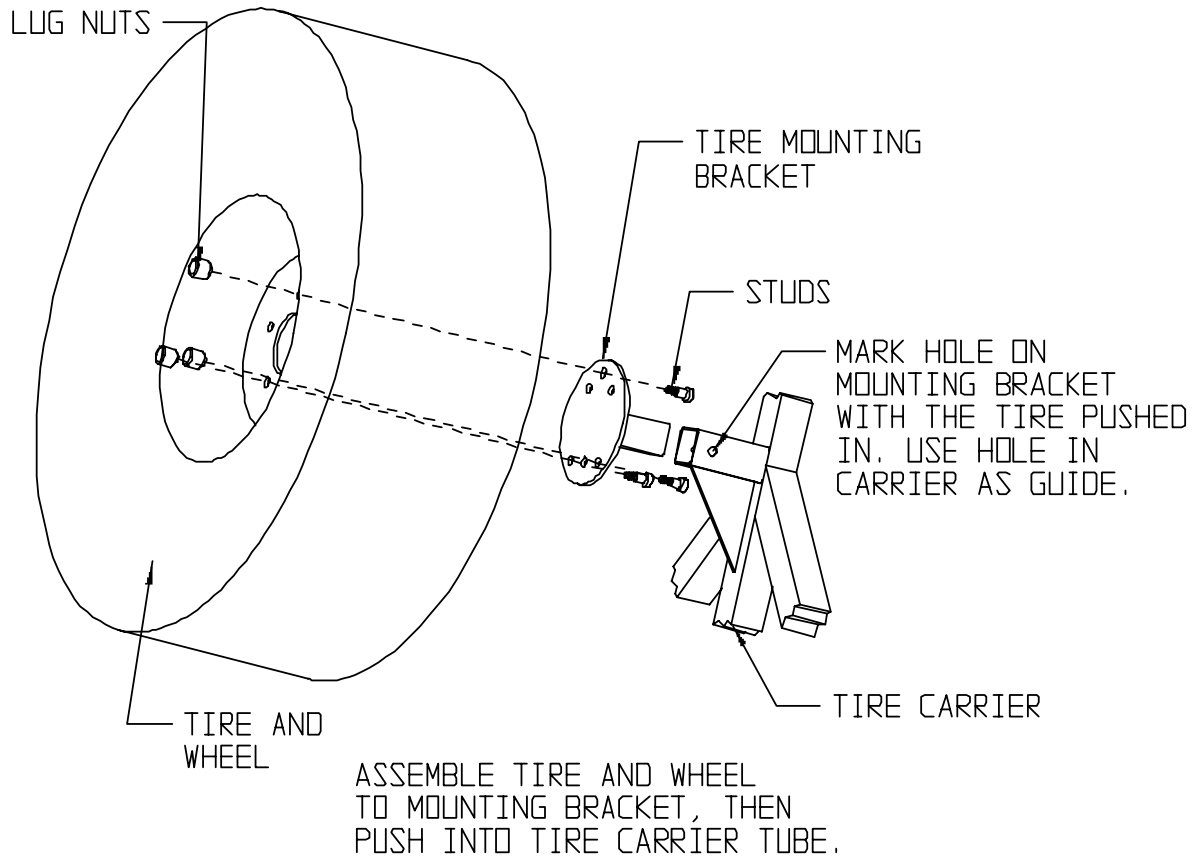

Figure 16, Tire and Wheel mounting assembly
19. When the studs are installed, attach the tire to the mounting bracket. Slide the tire-mounting bracket, on the backside of the wheel, into the bracket mounting tube on the tire carrier. With the tire pushed all the way in, mark the tire-mounting bracket through the hole in the tire carrier tube. Remove the tire and mounting bracket from the tire carrier. Remove the bracket from the tire and wheel. **Use Figure 16 for assembly.**